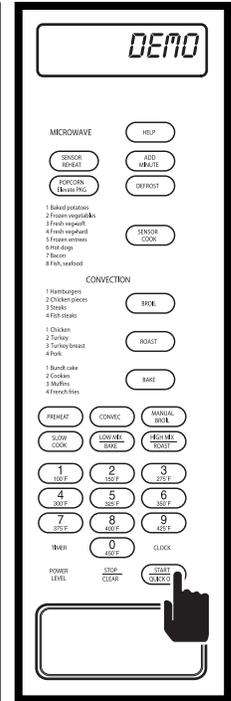

Figure 3-67.
3. Press and hold QUICK ON/START for three seconds. Display will flash “DEMO - ON - DURING - DEMO - NO - OVEN - POWER” then show a steady “DEMO” (See Figure 3-67). While in Demo Mode, any of the keys can be pressed and the display will show or flash the appropriate message. If the QUICK ON/START key is pressed, the microwave oven will function in all respects except that microwave cooking components will not be energized and the timer on display will abbreviate the count down from minutes to seconds.